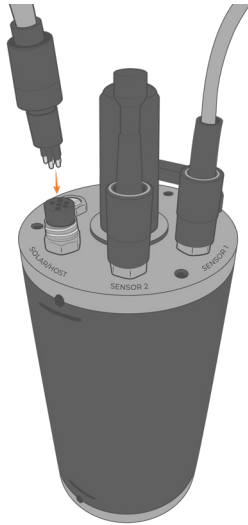

Figure 2: Connect an MCIL-6-MP connector to SOLAR/HOST.
- 8 For direct communication or power application, connect an MCIL-6-MP connector to the 6-pin SOLAR/HOST port (Figure 2).